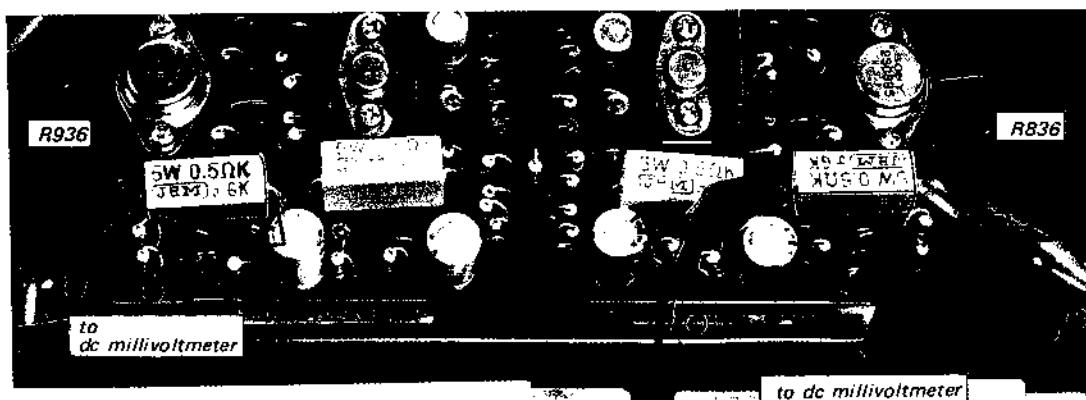

Fig. 3-16 Dc millivoltmeter connection
To avoid accidental power transistor damage, increase the ac line voltage gradually, using a variable transformer, while measuring the voltage across emitter resistors (R836, R936) of power transistors alternately as shown in Fig. 3-16. Check to see that the reading does not exceed 25mV. If it does, turn off the power as soon as possible, then check and repair the trouble in the power amplifier board.
2. Connect the dc millivoltmeter across emitter resistor R836 (R936) of power transistor Q810 (Q910) as shown in Fig. 3-16.